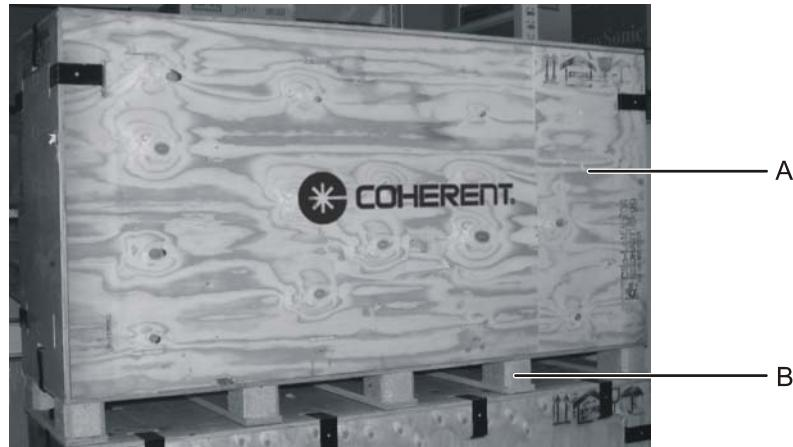

Figure 132: Rigid transport packaging
The rigid transport packaging (see Figure 132) fully encapsulates the laser devices and inner cover. It consists of a plywood base pallet (B) and plywood upper panels (A) at the sides, front rear and top.